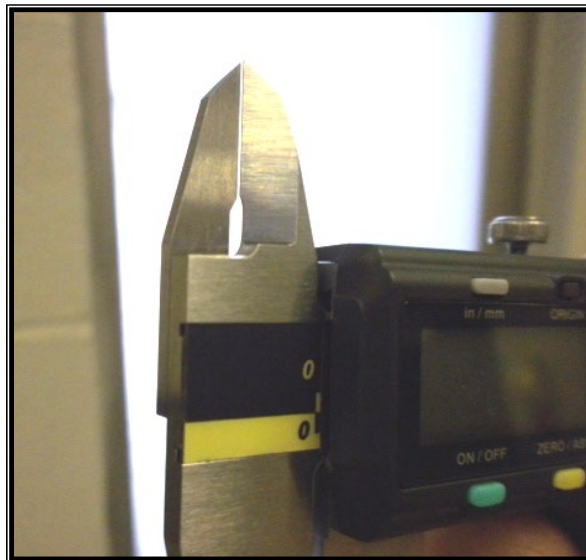

Figure 1
- 5.2.2** For the blades used to measure inside dimensions, close the calipers and hold up to a light source. Adjust the calipers until light is apparent between the outside dimensional measurement blades. Using the illuminating light as a reference, visually determine that the blades are parallel with no apparent wear (Figure 1).